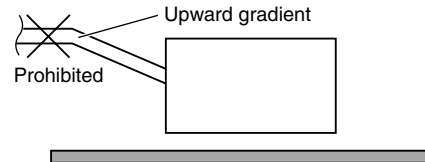

Fig. 3-65-3
- Do not install the pipe with an upward gradient from the connection port. This will cause the drain water to flow backward and leak when the unit is not operating. (Fig. 3-65-3)